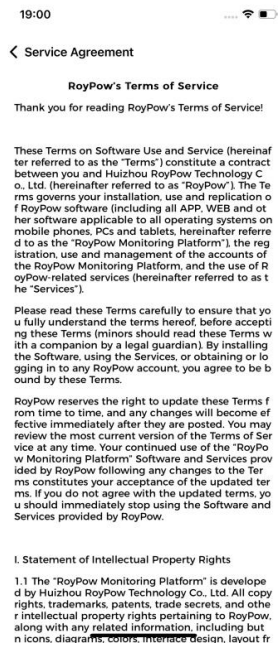

Fig. 5.3.2 Service Agreement
1. Users can access the "**Service Agreement**" by clicking on "**About**" and then selecting "Service Agreement" at the bottom. This allows users to view the services provided by this software. as shown in Fig. 5.3.2.